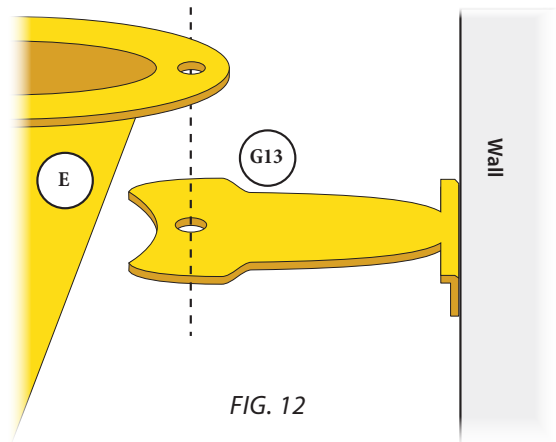

FIG. 12
- 12** Align the Rear Support Brace (G13) underneath the hole closest to the wall on the upper flange of the Cyclone (E) [FIG. 12].